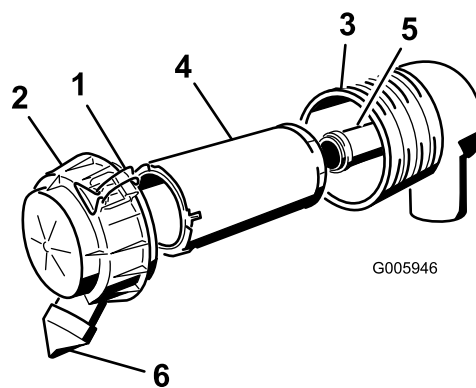

Figure 28
3. Release the latches on the air cleaner and pull the air cleaner cover off of the air cleaner body (Figure 28).
6. Gently slide the primary filter out of the air cleaner body (Figure 28). Avoid knocking the filter into the side of the body.
9. If you are replacing the safety filter, carefully slide the new filter into the filter body (Figure 28).
10. Carefully slide the primary filter over the safety filter (Figure 28). Ensure that it is fully seated by pushing on the outer rim of the filter while installing it.
11. Install the air cleaner cover with the side indicated as UP facing up and secure the latches (Figure 28).